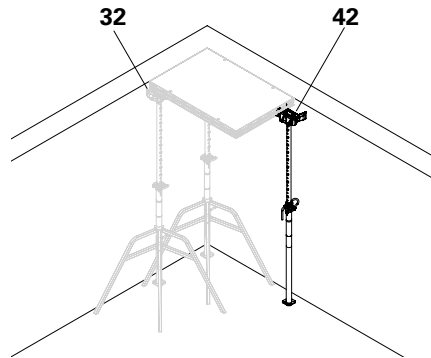

Fig. D2.14
4. Place the third prop with the DBH backpropping head (**42**) at the end of the panel in an inclined position from the inside and align outwards. Spacing 1.275 m. Remove the shuttering aid. (Fig. D2.14)